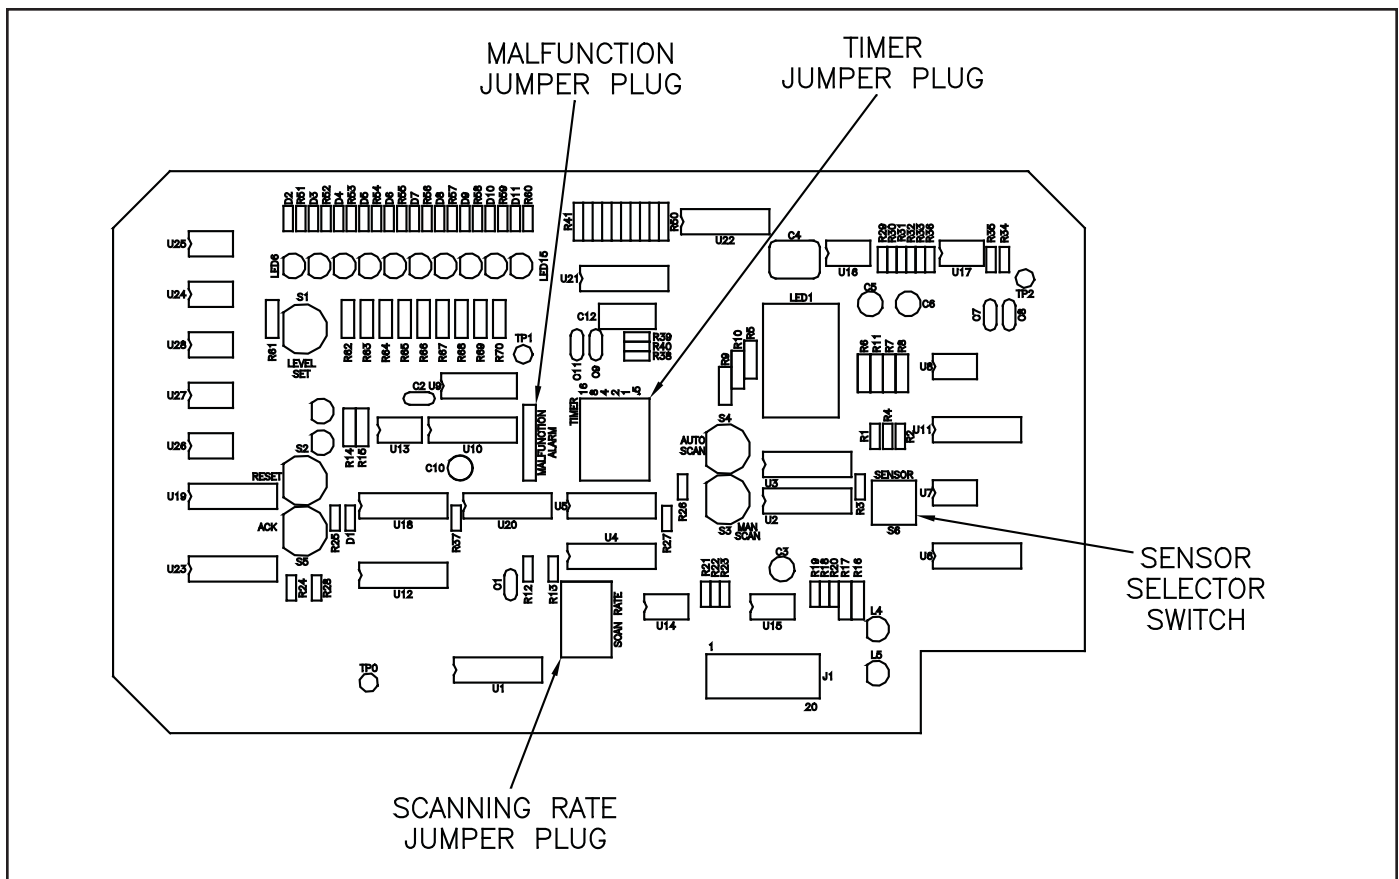

Figure 8 - Model 1620B Front Printed Circuit Board
8. Replace the sensor module cover and secure with the four (4) screws.
10. When connecting sensors to the Model 1620B, use a small, thin blade screwdriver to set selector switch located on the front printed circuit board and labeled (S6), to correspond to the number of sensors wired. Do not use positions 0 or 9. (See Figure 8)
With the power to the receiver and all associated equipment **TURNED OFF**, disconnect the sensor being removed from the receiver. Then disconnect the sensor located in the last position and reconnect it in the position previously occupied by the removed sensor. Finally, decrease the sensor selector switch (S6) position by one (Refer to Figure 8), and record the removal of one sensor and the new position of the repositioned sensor in the Appendix. Change faceplate labels as required. Reapply power to the receiver and associated equipment.